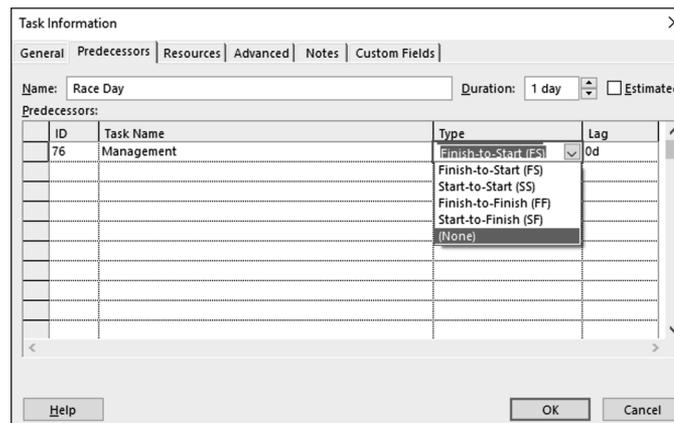

FIGURE 4-7:
2. Click the Predecessors tab, as shown in Figure 4-7.